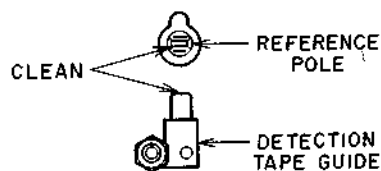

Fig. 7-2
2. Clean the Reference Pole and the Detector Tape Guide prior to this adjustment. (Refer to Fig. 7-2)